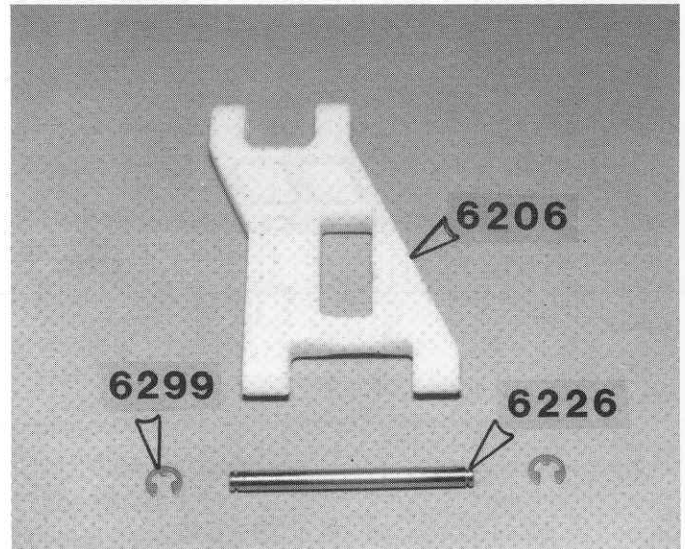

Fig. 7
□ **Fig. 7** From bag 6-1, take out one of the #6206 front A-arms, the #6226 inner pin and the package of "E" clips, as shown.